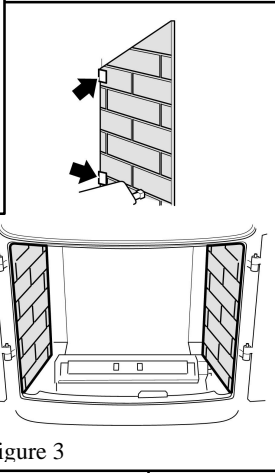

Figure 3
2. Place the ceramic walls against the firebox sides. Locate the back edges of the walls in the tabs at the back corners of the firebox. See figure 3.